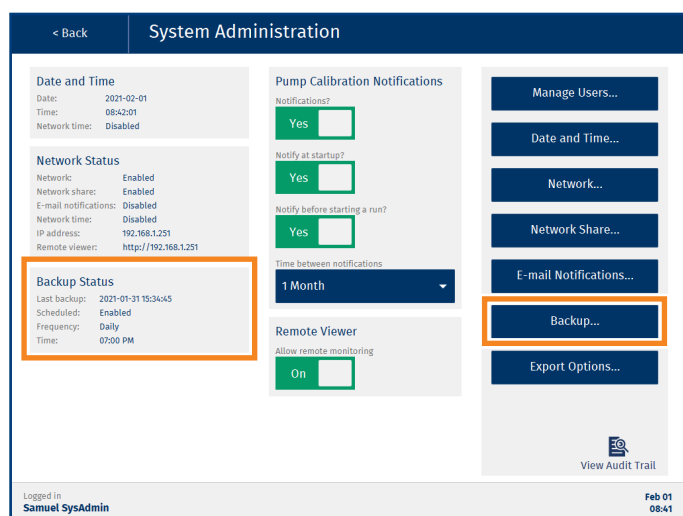

Figure 19. The backup features in the System Administration view.
To get a quick overview of the backup setup and when the last backup was performed, see the **Backup Status** field in the **System Administration** view (see Figure 19).
1. In the **System Administration** view, press **Backup...** (see Figure 19).